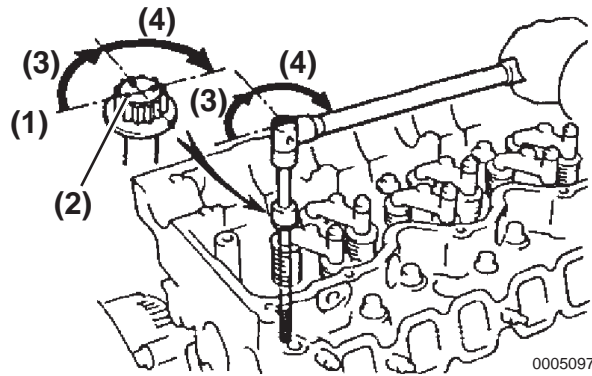

Figure 5-68
14. Mark the front side (**Figure 5-68, (1)**) of each cylinder head bolt with paint (**Figure 5-68, (2)**).
15. Retighten the cylinder head bolts an additional 90° (**Figure 5-68, (3)**).
16. Retighten the cylinder head bolts again an additional 90° (**Figure 5-68, (4)**).